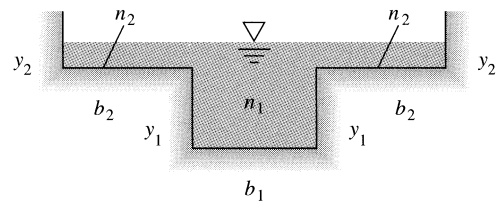

Fig. P10.35
**10.35** In flood stage a natural channel often consists of a deep main channel plus two floodplains, as in Fig. P10.35. The floodplains are often shallow and rough. If the channel has the same slope everywhere, how would you analyze this situation for the discharge? Suppose that  $y_1 = 20 \text{ ft}$ ,  $y_2 = 5 \text{ ft}$ ,  $b_1 = 40 \text{ ft}$ ,  $b_2 = 100 \text{ ft}$ ,  $n_1 = 0.020$ ,  $n_2 = 0.040$ , with a slope of 0.0002. Estimate the discharge in  $\text{ft}^3/\text{s}$ .
**10.36** The Blackstone River in northern Rhode Island normally flows at about  $25 \text{ m}^3/\text{s}$  and resembles Fig. P10.35 with a clean-earth center channel,  $b_1 \approx 20 \text{ m}$  and  $y_1 \approx 3 \text{ m}$ . The bed slope is about  $2 \text{ ft}/\text{mi}$ . The sides are heavy brush with  $b_2 \approx 150 \text{ m}$ . During hurricane Carol in 1955, a record flow rate of  $1000 \text{ m}^3/\text{s}$  was estimated. Use this information to estimate the maximum flood depth  $y_2$  during this event.